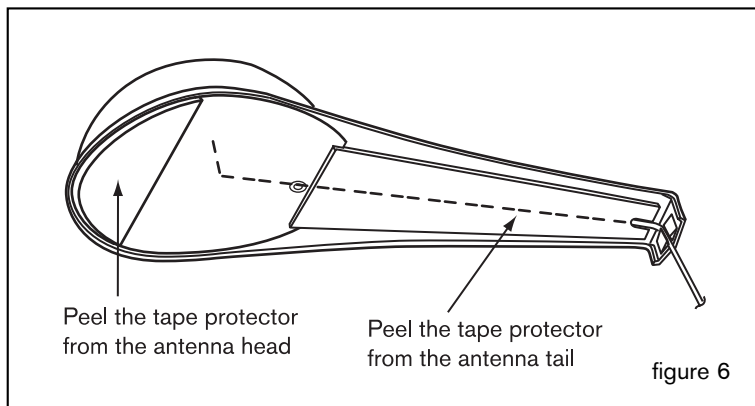

figure 6
- (11) Clean the roof once again with 50/50 alcohol/water solution. Peel the tape protector from the antenna tail and lay down tail. (figure 6)